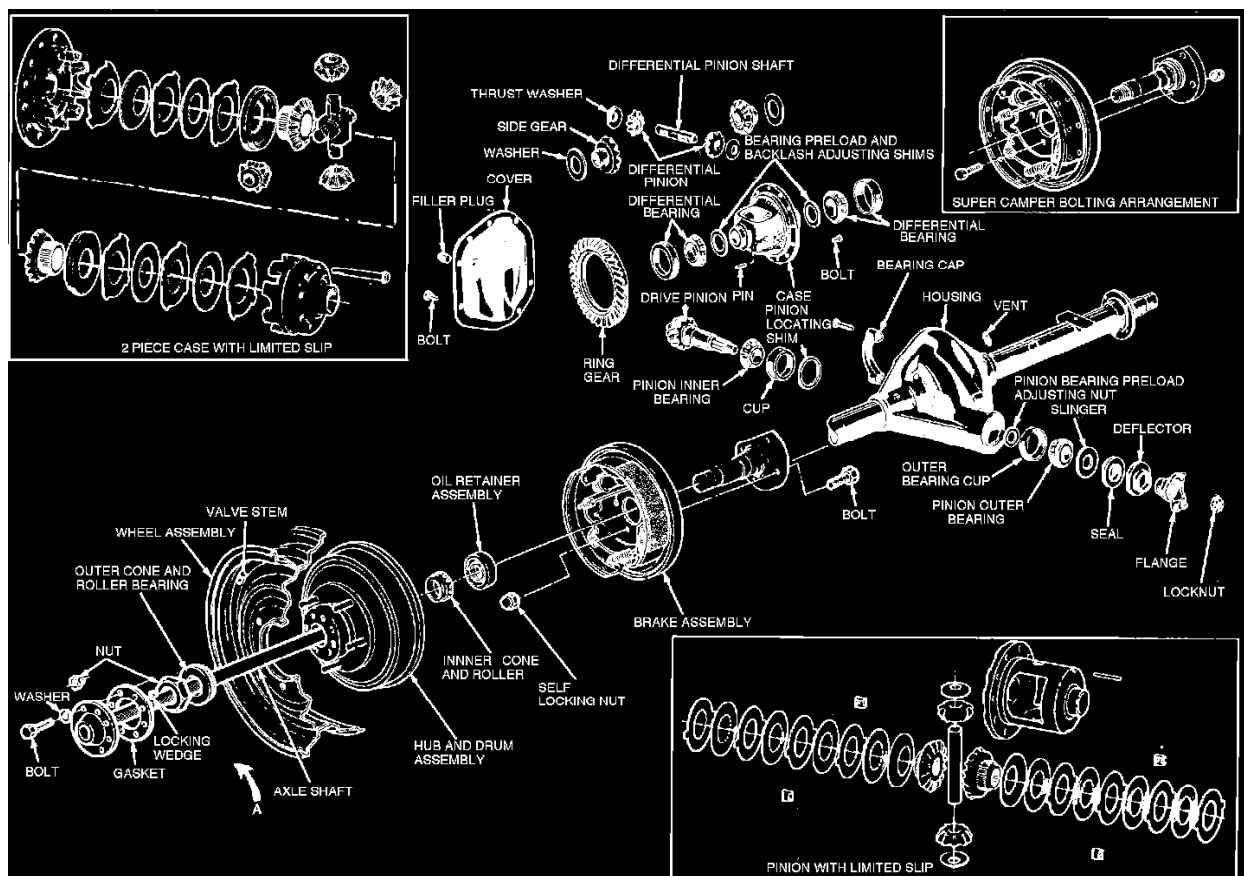

Fig. 1 Dana/Spicer full floating rear axle
1. Remove axle from vehicle, Figs. 1 and 2.